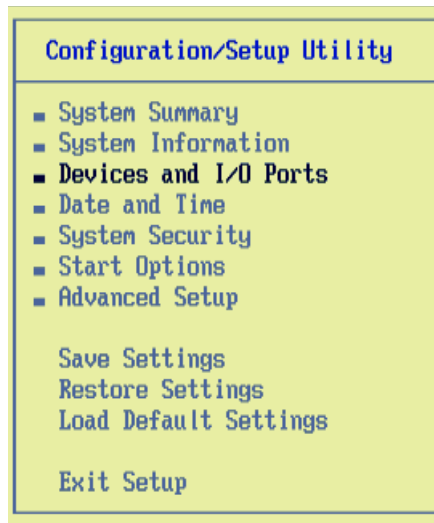

Figure 20-29 Select Devices and I/O Ports
- b. Select Devices and I/O Ports as shown Figure 20-29.